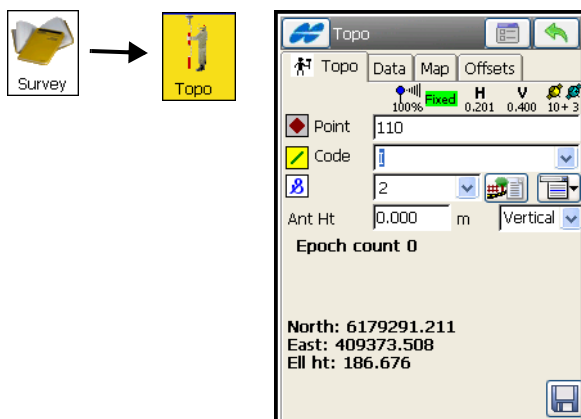

Figure 8-18. Topo
1. Tap **Survey** ► **Topo**. On the *Topo* screen (Figure 8-18):
- Tap  on the *Topo* tab to start the measurement process (Figure 8-18 on page 8-20). After pressing this button, a new cancel button  appears along with the counter of the epochs collected. When using a mmGPS system, the status bar displays a mmGPS icon . This icon displays when the receiver calculates mmGPS heights.